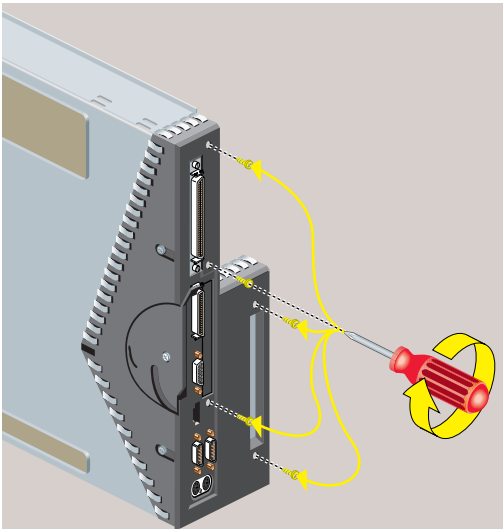

Figure 5-19 Replacing Five Screws on the Face Plate
- Use a Phillips screwdriver to insert and tighten five screws in the locations shown (Figure 5-19).